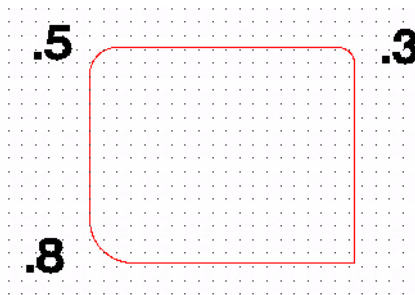

Figure 178
- 4 Click the **Round Corner** tool on the corner you want to round. See figure 178.